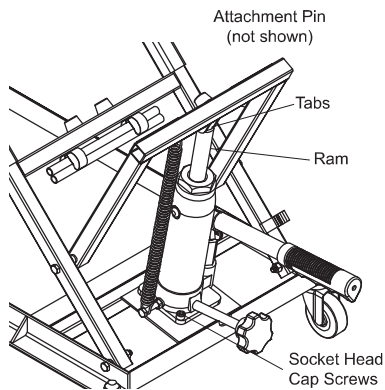

Figure 1 - Bottle Jack assembly
3. Place Bottle Jack on Base Frame pedestal and thread Attachment Pin through Bottle Jack Frame tabs and hole in Bottle Jack ram. Using two socket head cap screws, assemble Bottle Jack to Base Frame (reference Fig. 1).